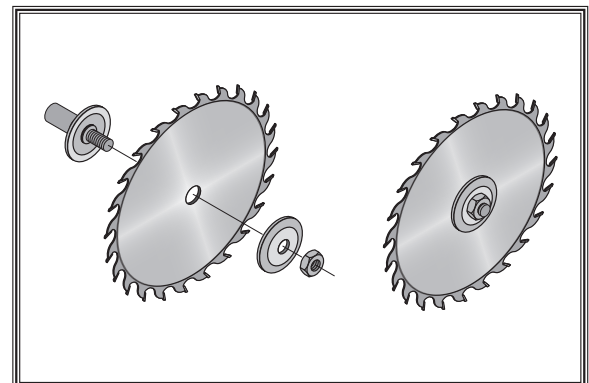

Figure 47. Blade installation.
6. Re-install the arbor flange and the arbor nut (see **Figure 47**), and tighten them against the blade with the wrenches included with the saw. DO NOT over-tighten.